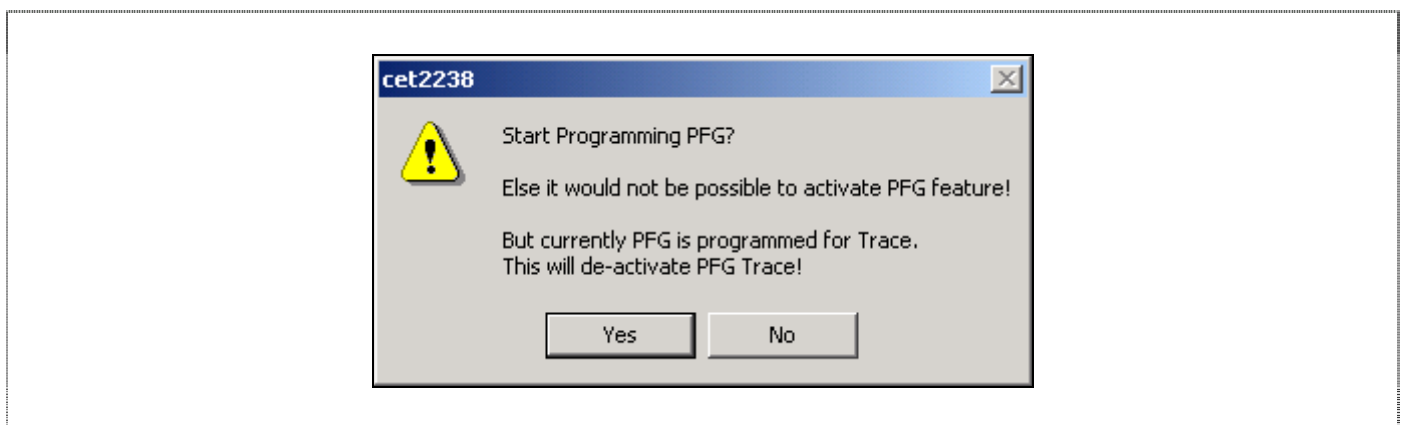

Figure 7-26 PFG Programming
- A message box will be displayed to allow user to program this PFG function before it can be used as shown in Figure 7-26. Click *Yes* button.